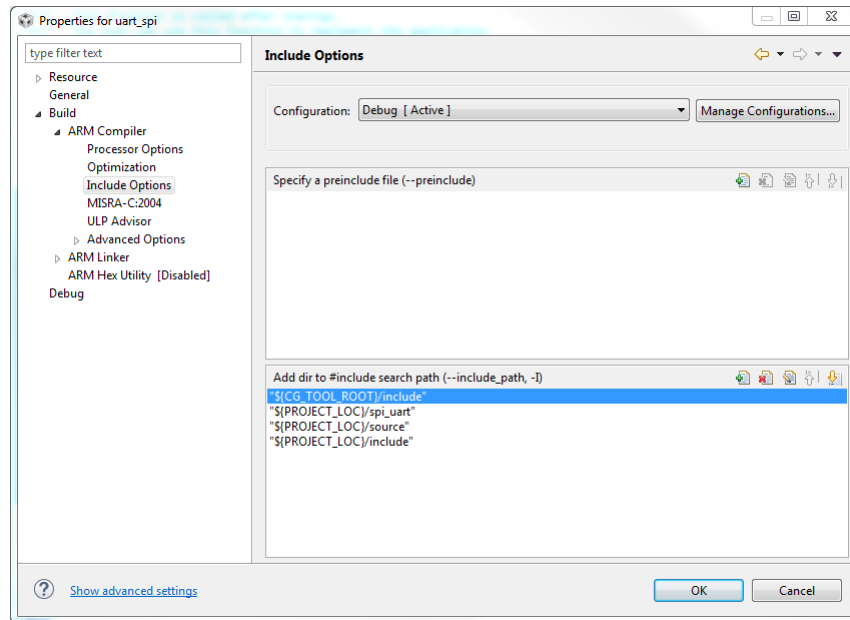

Figure 5. Include Options
- (a) Navigate to Build --> ARM Compiler --> Include Options, and ensure that all the include options shown in Figure 5 are added.